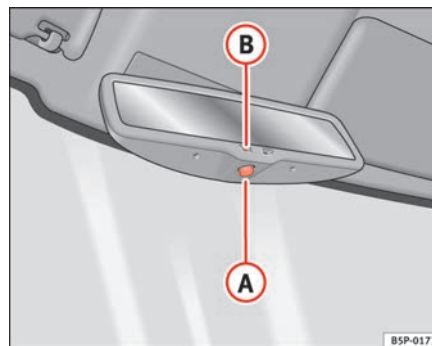

Fig. 63 Automatic anti-dazzle interior mirror.
- Press button (A) ⇒ fig. 63. Warning lamp (B) goes out. ►
- Press button **A** ⇒ page 100, fig. 63. Warning lamp is lit.